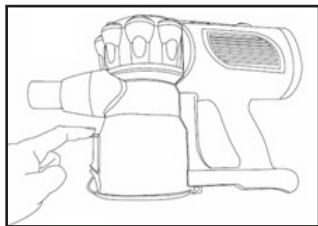

Abb. 1
- It is recommended to remove garbage and dust from the dust bin (8) after every room cleaning.
- Switch the vacuum cleaner off with the power switch (6) and disconnect the power plug from the mains.
- Press on the lock (9) and open the lid (12) (fig. 1).
- Place the dust bin (8) over a garbage bin.
- Remove accumulated dust and garbage from dust bin (8).
- Close the lid (12).